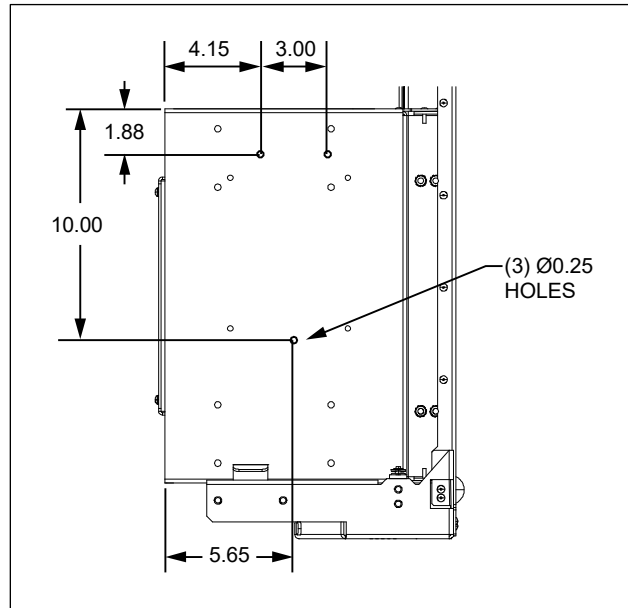

Figure 4
2. Drill three Ø0.25" mounting holes for the diplexer. Dimensions are shown in Figure 4.